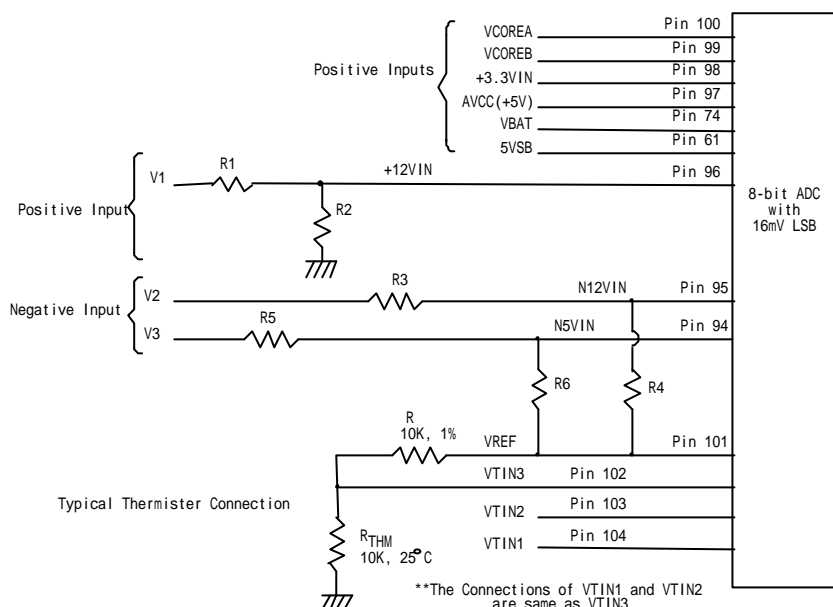

Figure. 9.2
The maximum input voltage of the analog pin is 4.096V because the 8-bit ADC has a 16mv LSB. Really, the application of the PC monitoring would most often be connected to power suppliers. The CPU V-core voltage ,+3.3V ,battery and 5VSB voltage can directly connected to these analog inputs. The +12V,-12V and -5V voltage inputs should be reduced a factor with external resistors so as to obtain the input range. As Figure 9.2 shows.
The negative voltage should be connected two series resistors and a positive voltage VREF (is equal to 3.6V). In the Figure 9.2, the voltage V2 and V3 are two negative voltage which they are -12V and -5V respectively. The voltage V2 is connected to two serial resistors then is connected to another terminal VREF which is positive voltage. So as that the voltage node N12VIN can be obtain a posedge voltage if the scales of the two serial resirtors are carefully selected. It is recommended from Winbond that the scale of two serial resistors are R3=232K ohms and R4=56K ohm. The input voltage of node N12VIN can be calculated by following equation.
The W83697HF can connect three thermistors to measure three different environment temperature. The specification of thermistor should be considered to (1) β value is 3435K, (2) resistor value is 10K ohms at 25°C. In the Figure 9.2, the thermistor is connected by a serial resistor with 10K Ohms, then connect to VREF (Pin 101).